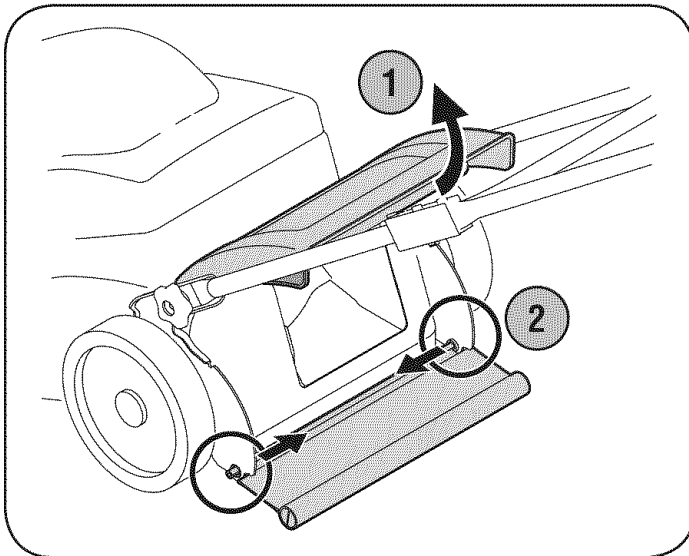

Figure 10
1. To remove trailing shield, lift rear door, and bend (bow) the trailing shield inward on each side to release tabs from the holes in the mower frame. See Figure 10.